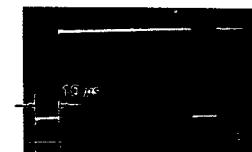

Fig. 3-5
- 1 Connect an oscilloscope to pin ③ of IC22 on BC BOARD.
- 2 Adjust R45 (NBL WIDTH) so that the N. blanking width is 10  $\pm$  0.2  $\mu$ s as shown in Fig. 3-5.